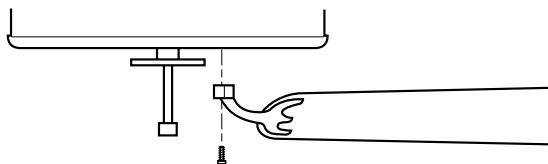

FIGURE 13
- B. Remove the screws from the motor hub. Insert one of these screws in hole in blade bracket. Use a screwdriver to hold in place. Align blade holes with mounting holes in hub, by turning screw and readjusting blade bracket until screw mates with threaded hole in hub. Do not tighten until both screws have been put in blade bracket. Repeat for all blades. See Figure 13.